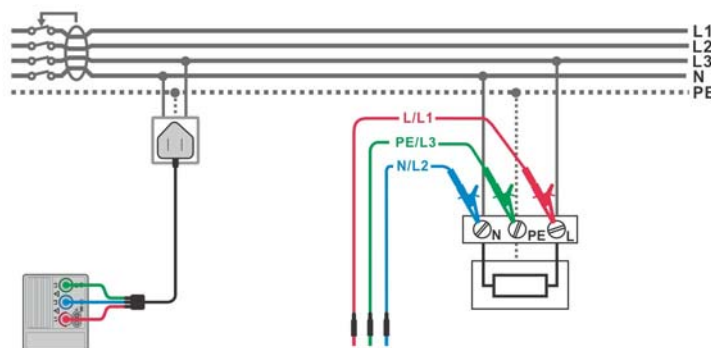

Figure 5.21: Connecting the plug test cable and test leads
- ❑ **Connect** the test leads to the wiring of the RCD to be tested (see *Figure 5.21*).
<ul style="list-style-type: none"> ❑ Select the RCD function using the function selector Switch. ❑ Set sub-function to AUTO using UP / DOWN keys. ❑ Set test parameters (if necessary). ❑ Connect the test cable to the instrument. ❑ Connect the test leads to the wiring of the RCD to be tested (see Figure 5.21). ❑ Press the TEST key to perform the test. 	Start of test